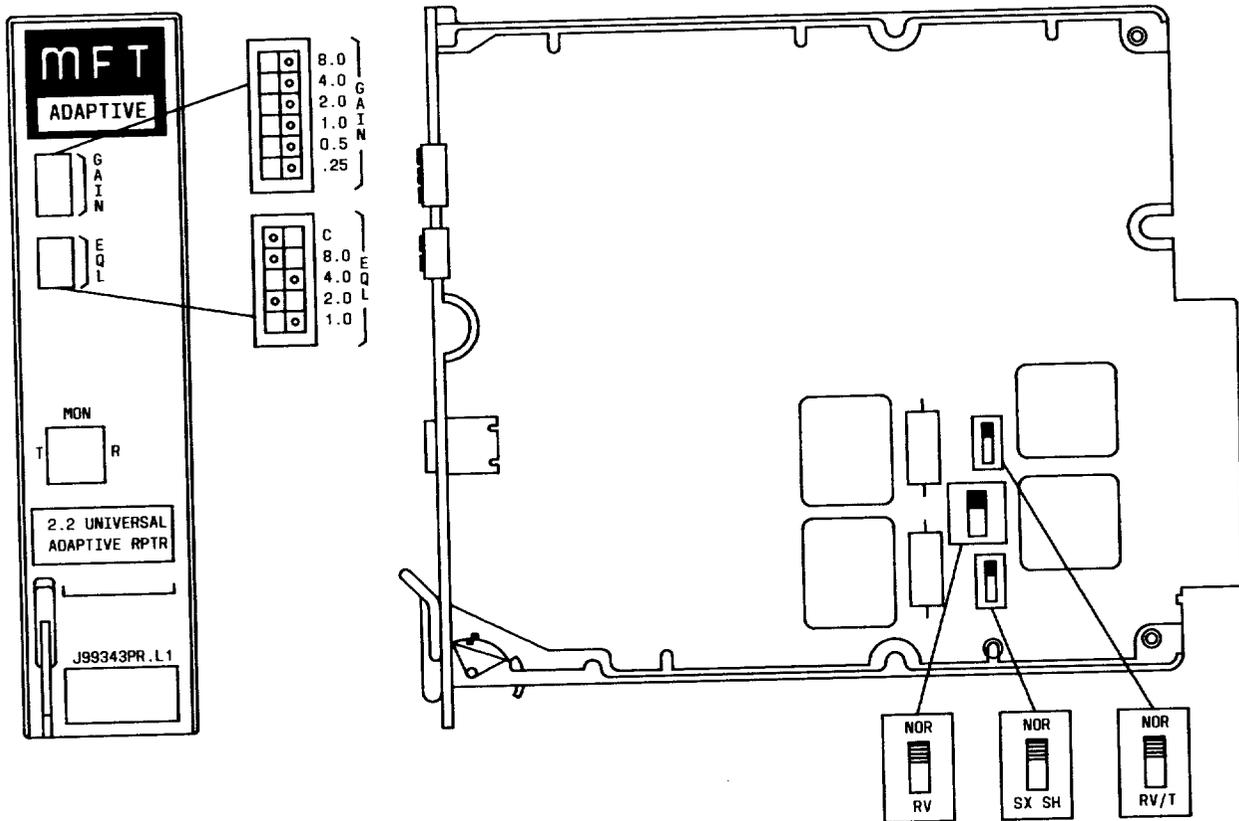

Fig. 2—J99343PR 2-2 Wire Repeater—Component Layout
2.03 The J99343PR repeater is shown in Fig. 2. This repeater can be used to furnish gain and equalization between 2-wire loaded/nonloaded cable facilities in intermediate applications or between terminal equipment and loaded/nonloaded facilities in terminal applications. The main circuits for this repeater are as follows: